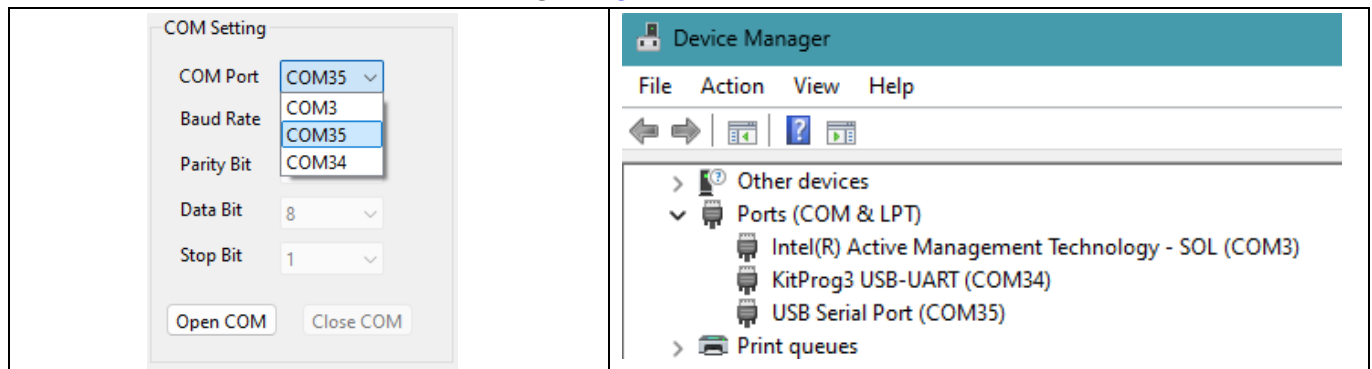

Figure 44 COM Port number selection
5. In the COM port setting in the GUI, select the **COM Port** number for the control board. If unsure about the number, check in the PC's **Device Manager** (Figure 44). Then, click **Open COM**